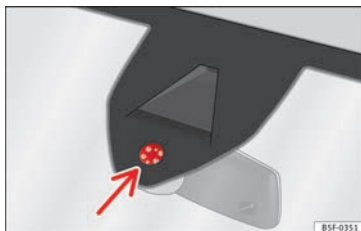

Fig. 148 Rain sensor sensitive surface
Possible causes of faults and mistaken readings on the sensitive surface » » Fig. 148 of the rain sensor include:
- Clean the sensitive surface of the rain sensor regularly and check the blades for damage » » Fig. 148 (arrow).